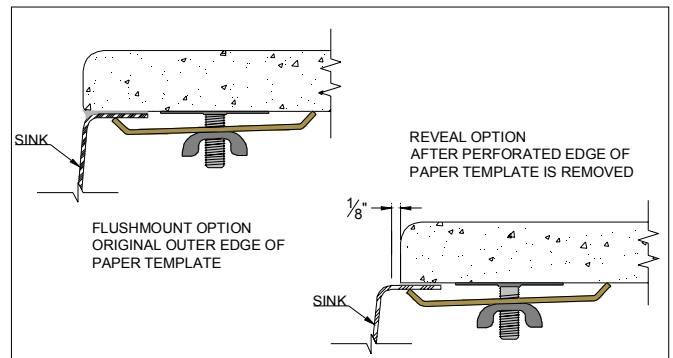

Figure 33B
- Using the paper template provided in the sink box, select type cutout desired. (FIG. 33B)